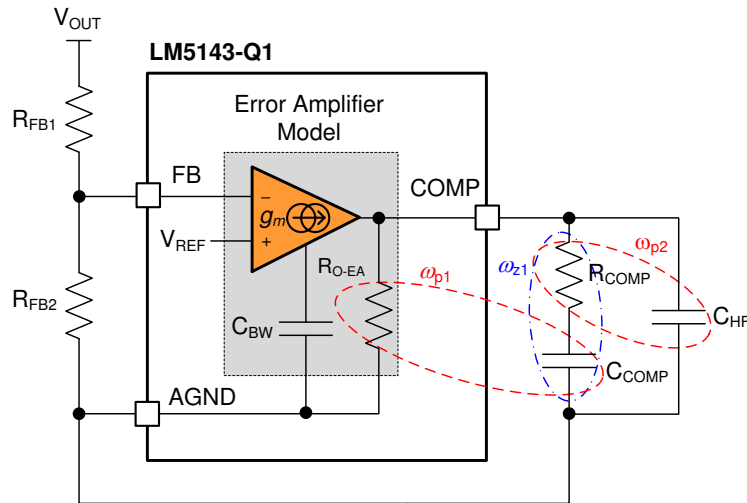

图 40. Error Amplifier and Compensation Network
图 40 shows a Type-II compensator using a transconductance error amplifier (EA). The dominant pole of the EA open-loop gain is set by the EA output resistance, $R_{\text{O-EA}}$, and effective bandwidth-limiting capacitance, C_{BW} , as shown in 公式 28.